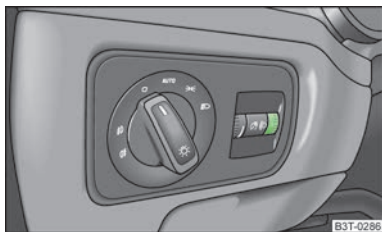

Fig. 34
- Turn the control dial » Fig. 34 to the desired width of illumination.